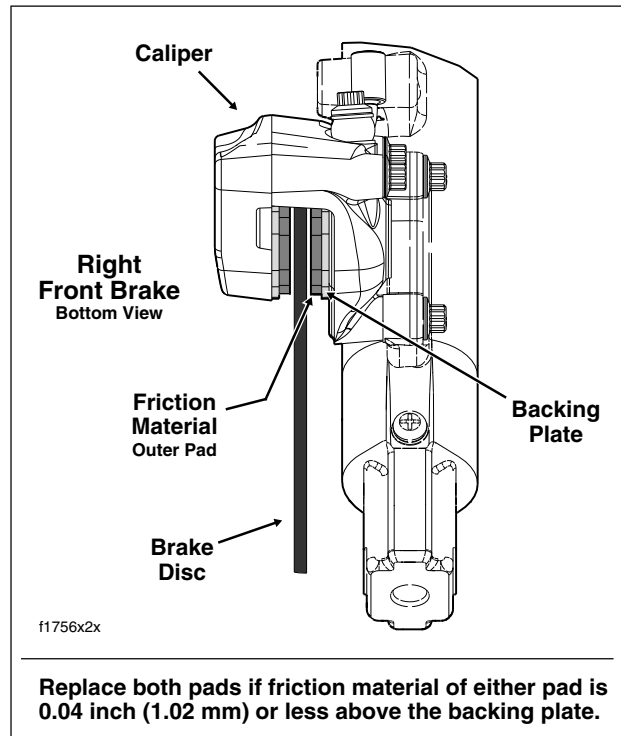

Figure 2-54. Measure Brake Pad Wear
1. Look up at the back of the right side caliper. See Figure 2-54.